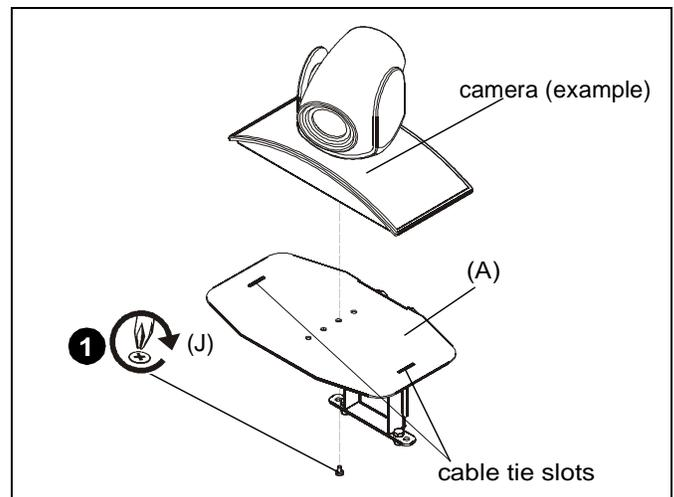

Figure 4
- Install 1/4-20 x 3/8" Phillips pan machine screw (J) through one of the mounting holes on shelf and into the hole on the bottom of the camera. (See Figure 4)
NOTE: Camera can also be secured to mount by threading a tie through outside slots on camera mount and around the camera. (See Figure 4)